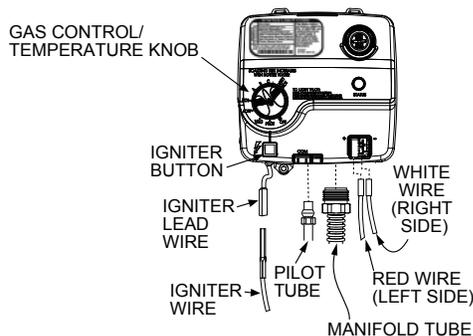
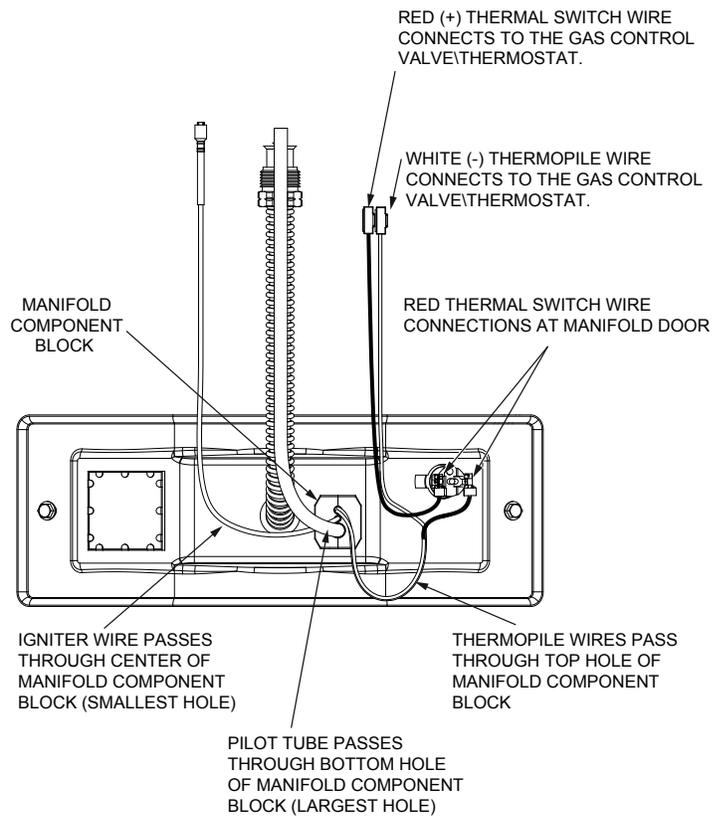

FIGURE 28.
FIGURE 33.
1. Turn the gas control/temperature knob to the "OFF" position (Figure 28).
5. Disconnect the following from the gas control valve/thermostat: pilot tube (7/16" wrench), igniter wire (from the igniter lead wire), and manifold tube (3/4" wrench). See Figure 28.
6. Disconnect the white and red wires from the gas control valve/thermostat (Figure 28). Use needle nose pliers to grip the connector(s). **IMPORTANT:** Grip the connector carefully to prevent damage. Do not grip or pull the wires themselves.
9. Reinstall the manifold component block in the manifold door. Ensure that the pilot tube and wires are positioned as shown in Figure 33.
6. Reconnect the manifold tube (3/4” wrench) and pilot tube (7/16” wrench) to the gas control valve/thermostat (Figure 28). Do not cross-thread or apply any thread sealant to the fittings.
7. Connect the white and red wires to the gas control valve/ thermostat as shown in Figure 28. Also, ensure that the red thermal switch wires are connected to the thermal switch on the manifold door (Figure 33).
8. Reconnect the igniter wire (Figure 28).
4. Disconnect the igniter wire from the igniter lead wire. Use needle nose pliers to disconnect the red (+) and white (-) thermopile wires. Disconnect the pilot tube (7/16" wrench) and manifold tube (3/4" wrench) at the gas control valve/thermostat (Figure 28).